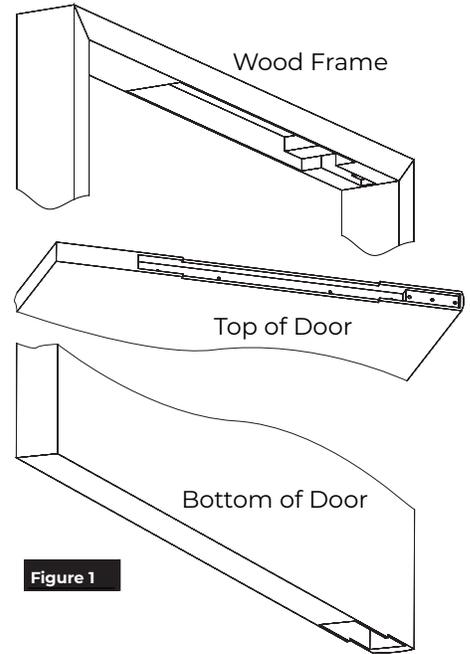

Figure 1
1. Using supplied templates, prepare and mortise door and head jamb for pivot set. (Figure 1)